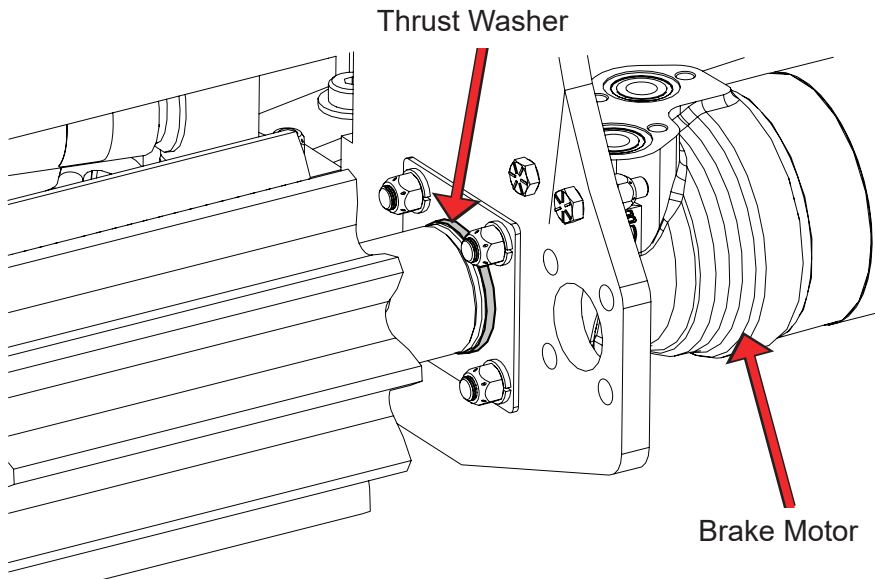

Figure 16
8. **Brake Motor:** Install the **brake motor** on the right side of the grabber assembly. Do not push the motor flush against the grabber assembly until the thrust washer is installed (see Step 9) (Figure 16). It may be necessary to turn the drive motor enough to correctly position the spline to allow the brake motor to be installed.
9. Install a thrust washer in place around the brake motor spline (Figure 16).
10. Apply one (1) drop of Loctite 263 to each stud. Do not apply more than one drop.
11. Install a locknut (PN 1141067) per stud on the fine threaded end on the brake motor (Figure 16).